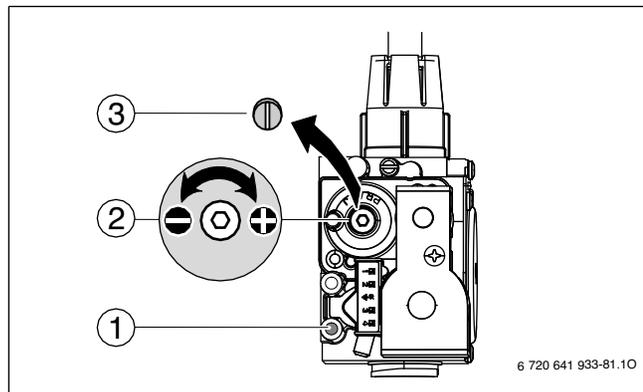
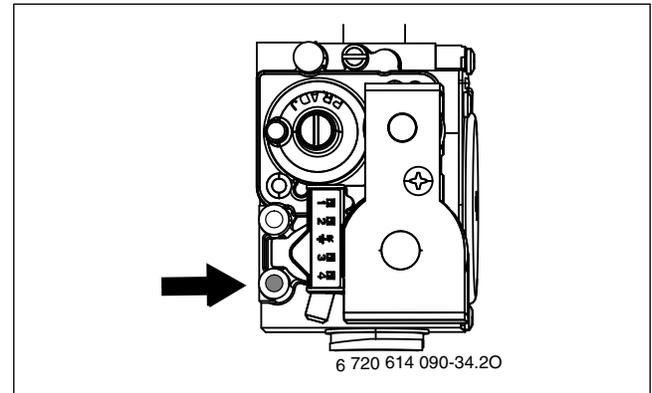

Fig. 80 Set CO₂ or O₂ level for minimum nominal output
Fig. 82 Dynamic gas pressure test port
- ▶ Remove the sealed screw (→ Fig. 80, [3]) from gas valve adjustment screw (→ Fig. 80, [2]) and set CO₂ or O₂ level for minimum nominal output.
- ▶ Reinstall the screw (→ Fig. 80, [3]) to cover the gas valve adjustment screw.
- ▶ Loosen the screw in the test port for gas inlet pressure (→ Fig. 80, [1]) and connect a pressure gauge (→ Fig. 82).